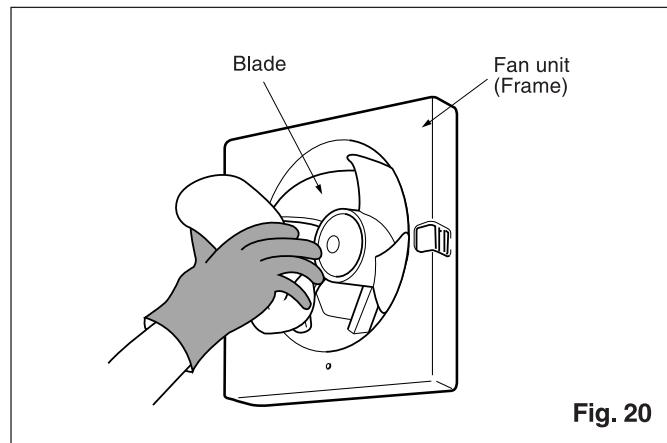

Fig. 20
4. Using a cloth dampened with a non-abrasive kitchen detergent, remove any dirt from the fan blades and body. Wipe them dry with a clean cloth. (Fig. 20)